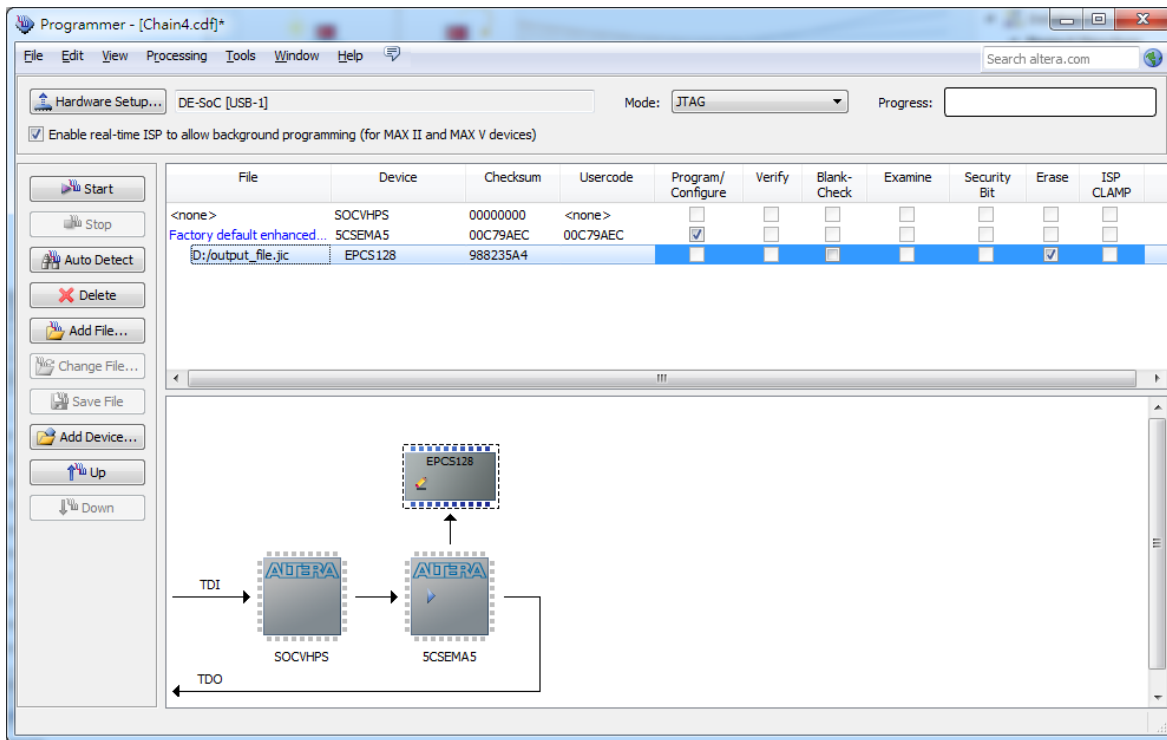

Figure 8-8 Erase the EPCS device in Quartus II Programmer
5. Erase the EPCS device by clicking the corresponding **Erase** box. A factory default SFL image will be loaded, as shown in **Figure 8-8**.